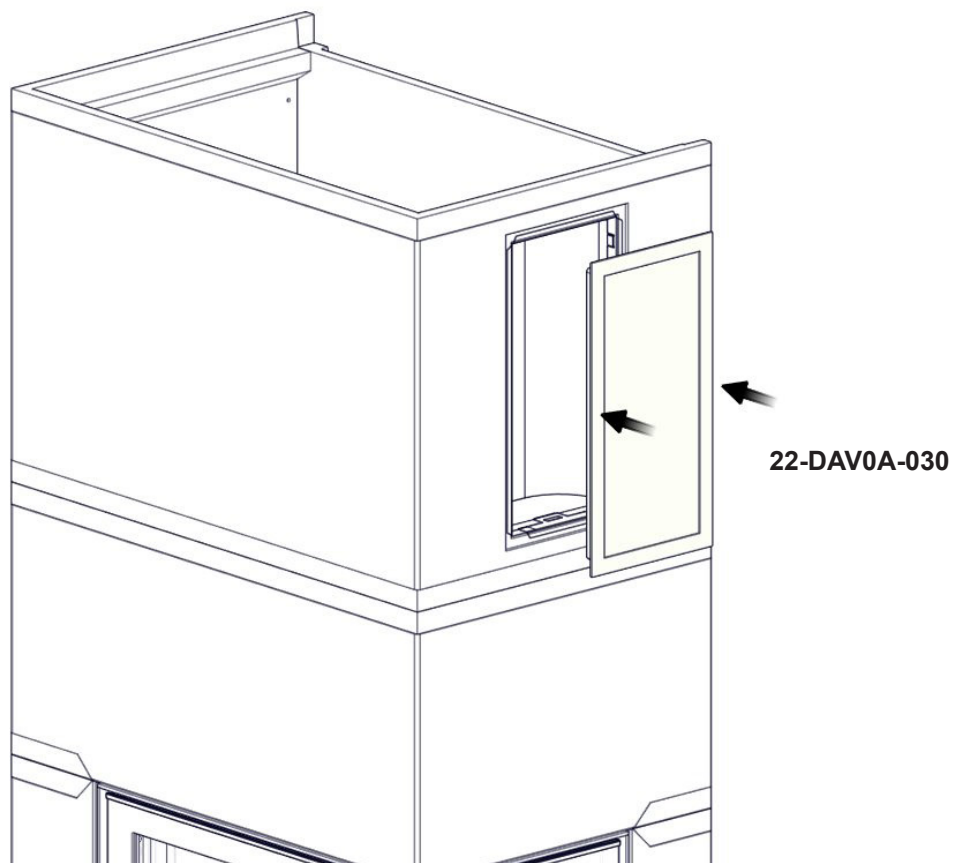

FIG 22 Davos A High\_N-29A
FIG 22 a Davos A High\_N-29A
FIG 22 b Davos A High\_N-29A
FIG 22 c Davos A High\_N-29A
FIG 22 d Davos A High\_N-29A
**FIG 22 e** Davos A High\_N-29A